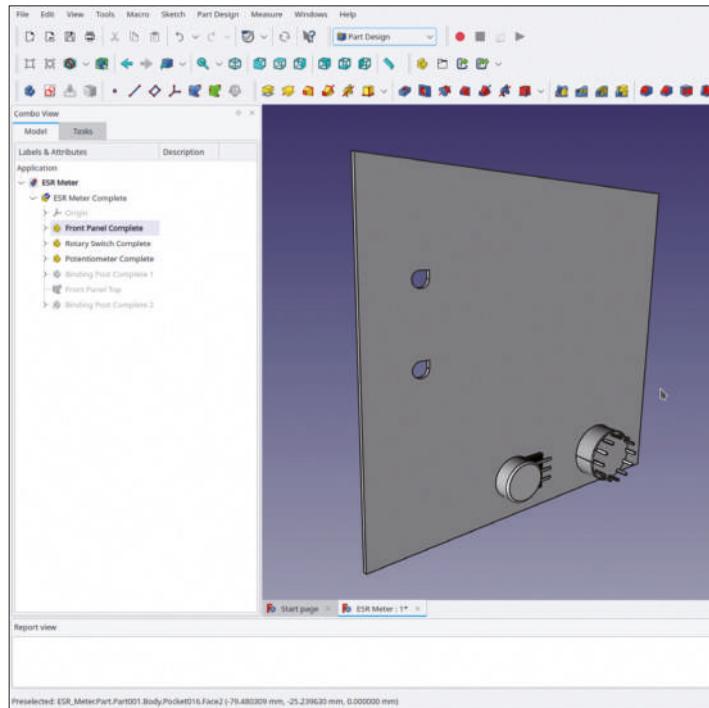

Figure 7-39
24. The punched-out footprint can be shown by hiding 'Binding Post Complete 1' and 'Binding Post Complete 1' (Figure 7-39).